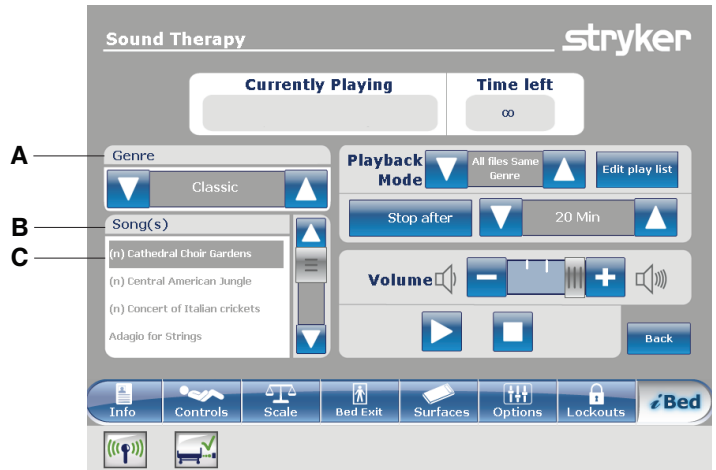

Figure 99 – Sound therapy
2. Tap the up and down arrows to select a genre (A) (Figure 99).
3. Tap the up and down arrows to scroll through the available songs in the **Song(s)** area (B).
**Note** - The currently selected song is highlighted in gray (C).
Tap **Edit play list** (Figure 99).